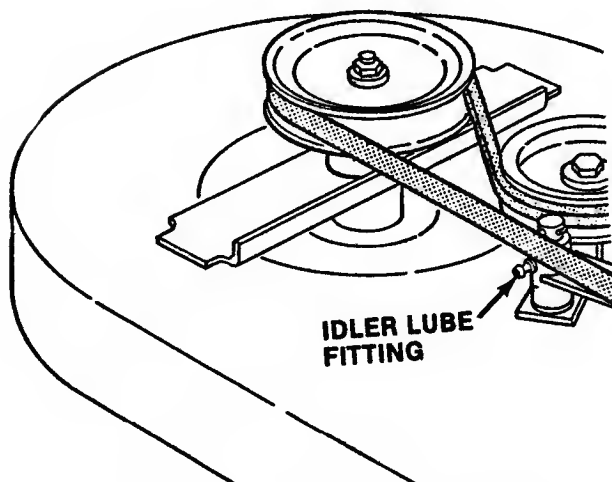

FIG. 10 - 41" MOWER LUBE POINT
- **IDLER(41" MOWER):** Lubricate bearing thru fitting on Idler arm pivot (FIG. 10).